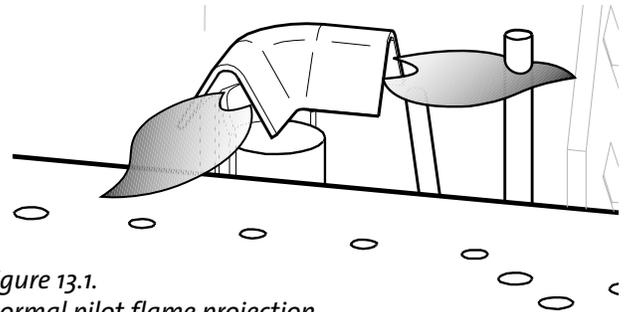

Figure 13.1.
2. **PILOT FLAME:** You can monitor the pilot flame located behind the burner at the rear of the firebox. The pilot flame should be steady - not lifting or floating. The flame should be blue in color around the pilot hood, with traces of yellow toward the outer edges. Fig. 13.1. The pilot flame should engulf the top 1/8" of the flame sensor. The pilot flame should project from the pilot hood port toward the burner carry-over ports. Adjust the pilot flame using the adjustment screw to the left of the valve regulator. See fig. 13.2.